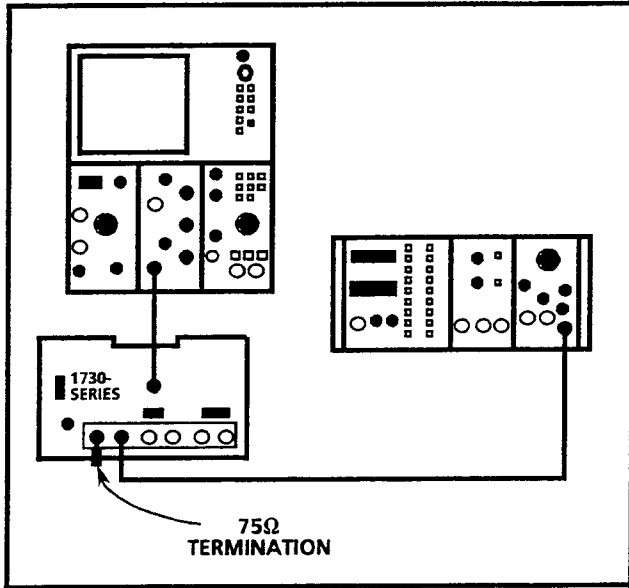

Fig. 5-10. Equipment connections for CH-A flatness checks and PIX MON OUT frequency response check.
- h. Move sine wave generator output to CH-A and terminate the remaining side of the loop-through INPUT with a 75Ω termination. See Fig. 5-10.